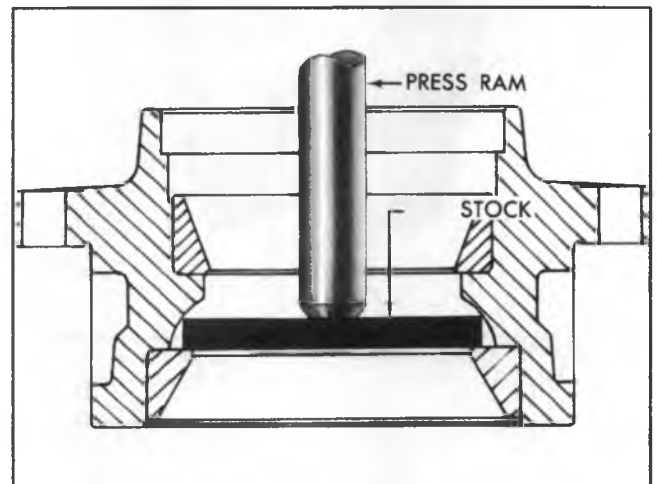

Fig. 9J--Removing Pinion Bearing Cup Retainer
3. Using 1/2 inch bar stock, cut to a suitable length and positioned in the provided notches, press pinion front and intermediate bearing cups from the retainer (fig. 9J).